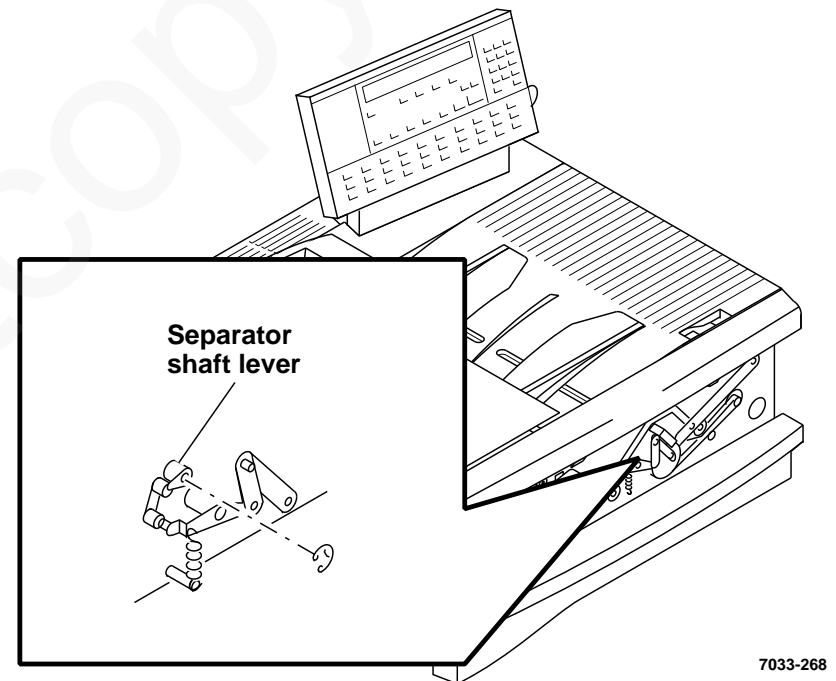

Figure 19. Separator shaft lever removal
- a. Remove E-ring from front of separator shaft (Figure 19).